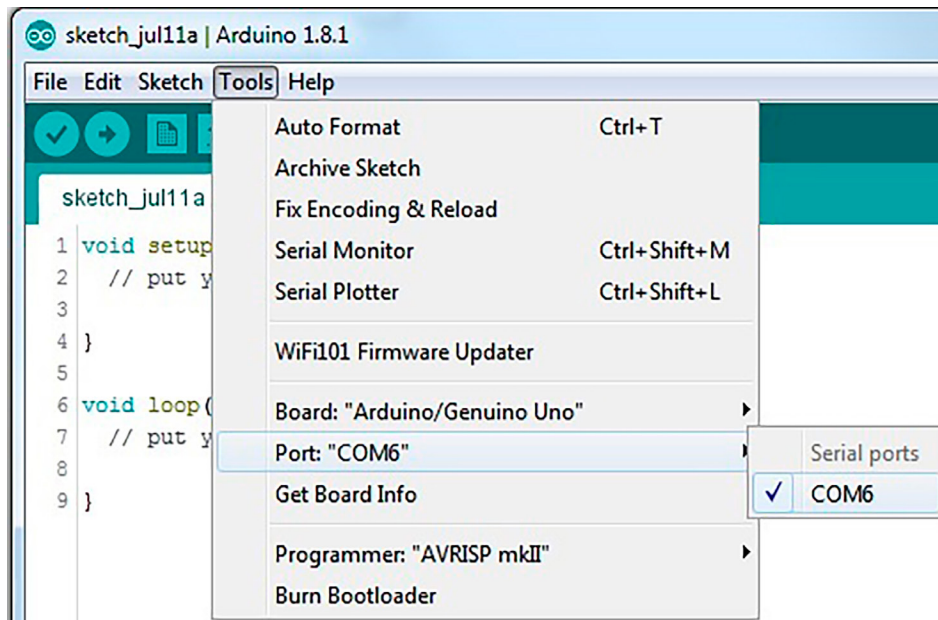

Figure 8. Selecting the Correct COM
4. Select the correct COM port to allow communication to DC2026 through USB. Under the **Tools** menu, select **Port** → Select the highest number **COMxx**. There may be more than one option—DC2026 is usually the highest COM port number. The PC screenshot (Figure 8) used in this example shows the DC2026 connected to COM6.